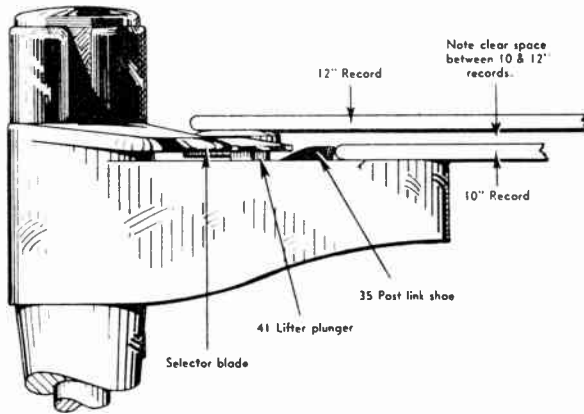

Figure SE23.
8. Selector Blades: (a) if an adjustment is necessary (see figure SE23), place a 10" record of slightly less than average thickness (.070" on the selector arms, and manually rotate the arms, counterclockwise. The blade must just clear the top of a record of the above thickness. The blade may be adjusted by bending, very slightly, to the correct position. (Use pliers with tape lined jaws.); (b) with a 12" record on the selector arms the blade will rise after it first contacts the edge of the record. This rising cam action results whenever pressure is applied to the leading edge of the selector blade. Unless the height of the blade is properly set (as described above) the blade will attempt to change two records at a time, due to the cam action which always operates in an up direction; (c) the blade must be free in its mounting so that it will return to normal position; (d) the leading edge of each blade must be smooth and well polished. This edge must not be sharp or rough. **DO NOT USE FILE, SANDPAPER OR EMERY** -- the blades should be buffed if anything is required.
9. Records Drop On One Side Only: (See figure SE23) if it has an unusually large center hole or a broken edge. Also examine the mechanism for a bent spindle or selector arm post, due to rough handling.